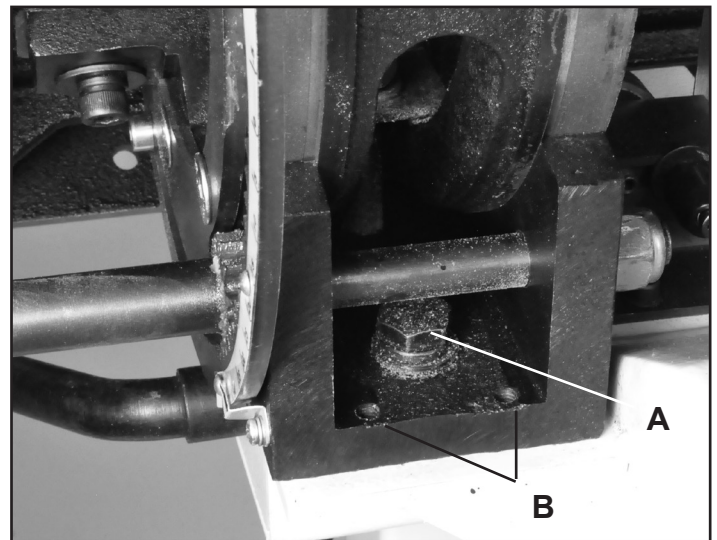

FIGURE 14
1. On the lower Trunnion Support (#17B), slightly loosen the two Hex Bolts (#13B) that hold the support to the bandsaw frame. Fig. 14, A.
3. Using the 3mm hex wrench, turn the rear trunnion micro adjusting hex screws (#16B) to adjust the table position. Fig. 14, B.